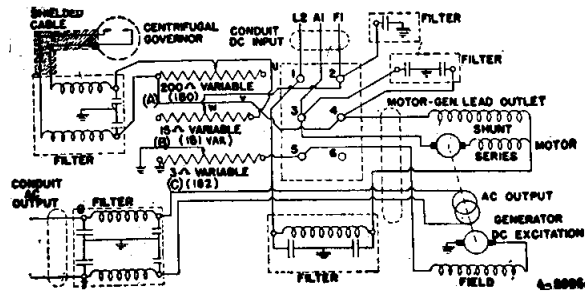

FIGURE 2.—Connection diagram A-5085.
(2) Equipments bearing serial numbers 298-342. In these equipments the value of the series resistor "B" was changed from 200 ohms to 15 ohms, and it was wired in series with the speed governor instead of in parallel. Connections for these equipments are shown in drawing A-5085, Figure 2.
(3) Equipments bearing serial numbers 343-